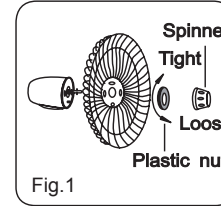

Fig.1
1. Unscrew the spinner clockwise (or take the spinner out from the bag) and the plastic nut counterclockwise to remove both of them. Fix the rear grill to the motor then tighten the plastic nut again. (Fig.1)